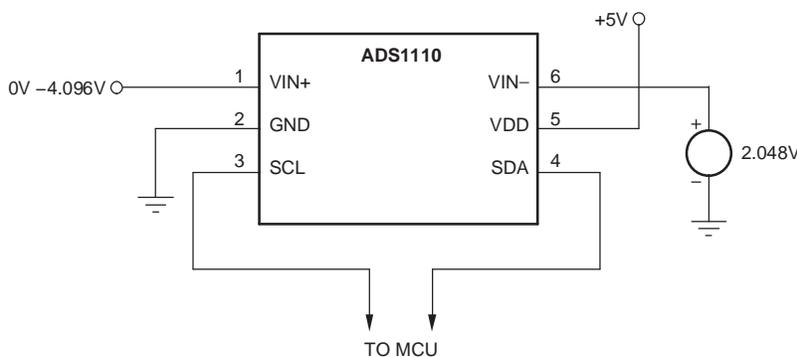

Figure 2. ADS1110 Single-Ended Measurement
- Connect a 2.048V reference to the negative input, as shown in Figure 2.